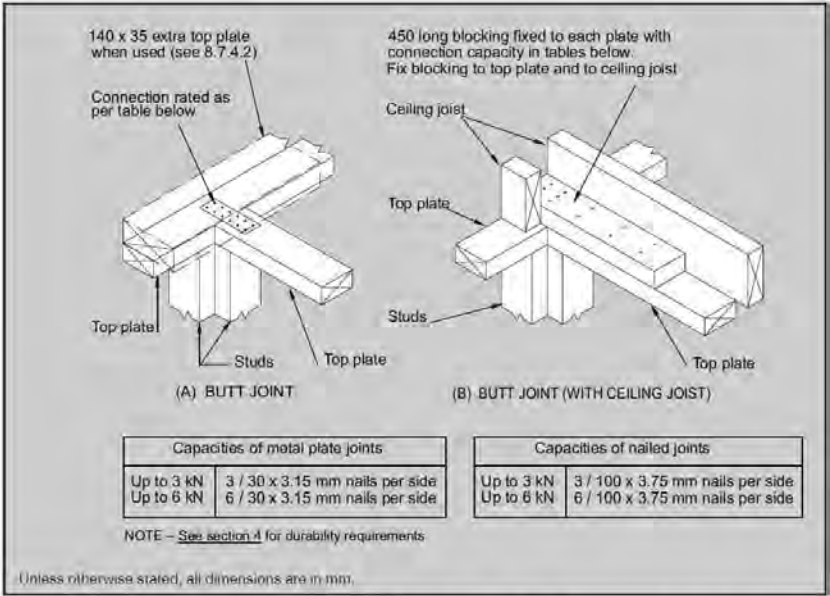

Figure 8.16 – Connecting top plates to external walls at right angles – Walls containing bracing (see 8.7.3.4)
- (a) For each wall containing wall bracing elements with a total bracing capacity of not more than 125 bracing units: to at least one such external wall by a fixing as shown in figure 8.16 of 6 kN capacity;
- (b) For each wall containing wall bracing elements with a total bracing capacity of not more than 250 bracing units: to at least 2 external walls by fixings as shown in figure 8.16 each of 6 kN capacity;
- (c) For each wall containing wall bracing elements with a total bracing capacity of more than 250 bracing units: to at least 2 external walls by fixings as shown in figure 8.16 each having a rating of not less than 2.4 kN per 100 bracing units.